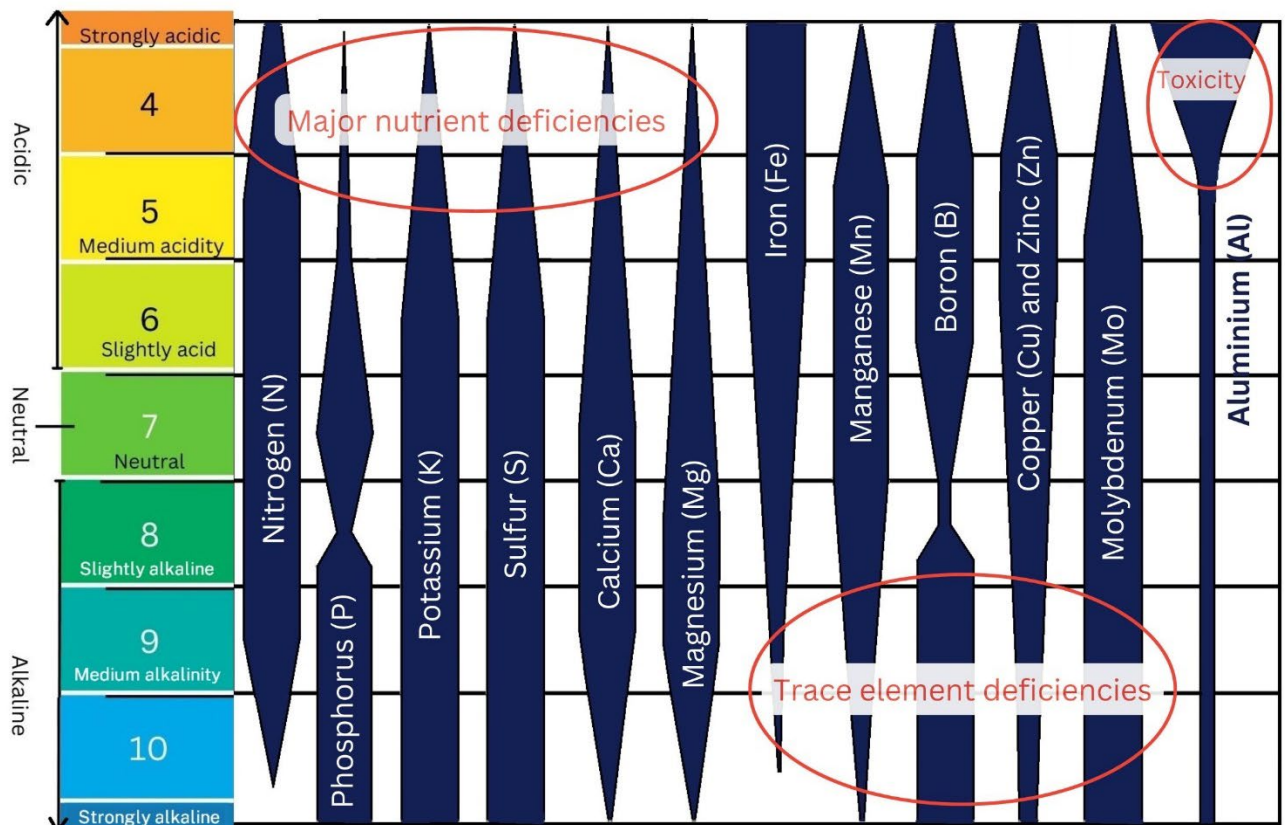

Figure 21 Effect of pH (CaCl₂) on the availability of soil nutrients
toxicities). See Figure 21. This results in plant deficiencies in macro and/or micronutrients (trace elements). *Soil pH is the most limiting manageable soil factor in plant growth.*
4. Use Figure 21 to identify possible Macro or micro- nutrient deficiencies/toxicities at your site/s.